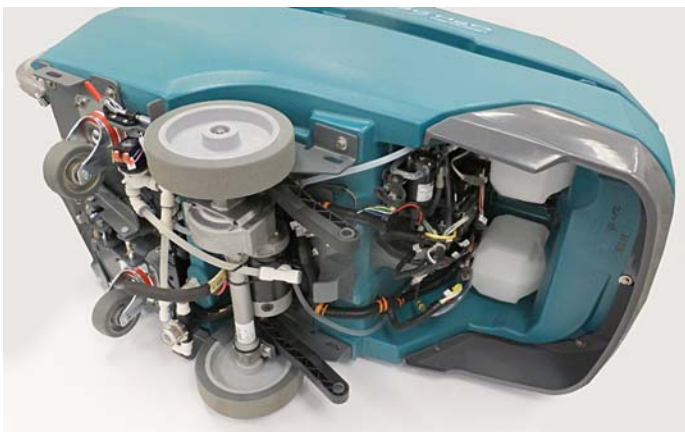

Fig. 2
2. On a non-marring surface, with assistance, carefully lay the machine on its left side (Figure 2)